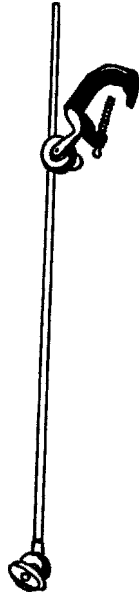

Figure 2.66 Studio overhead grip arm on pipe clamp.
1. A studio overhead grip arm (Figure 2.66) is an overhead C-clamp that terminates in a century-stand-like grip head with an extension arm.